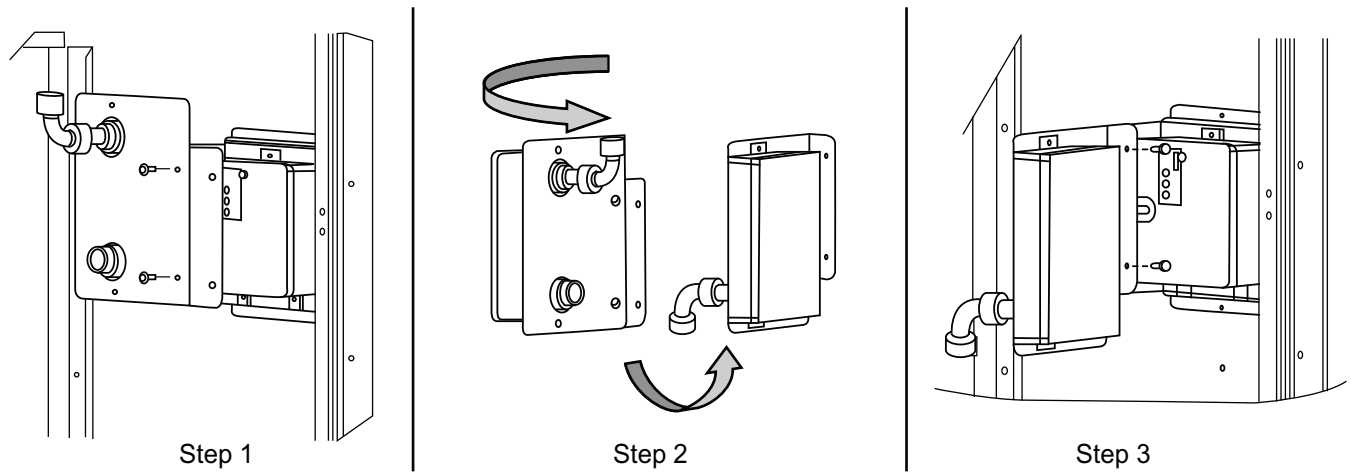

Fig. 54 — Completing Installation of Return-Air Smoke Sensor
1. Unscrew the two screws holding the return air smoke detector assembly. See Fig. 54, Step 1. Save the screws.
2. Turn the assembly 90 degrees and then rotate end to end. Make sure that the elbow fitting is pointing down. See Fig. 54, Step 2.
3. Screw the sensor and detector plate into its operating position using screws from Step 1. See Fig. 54, Step 3.